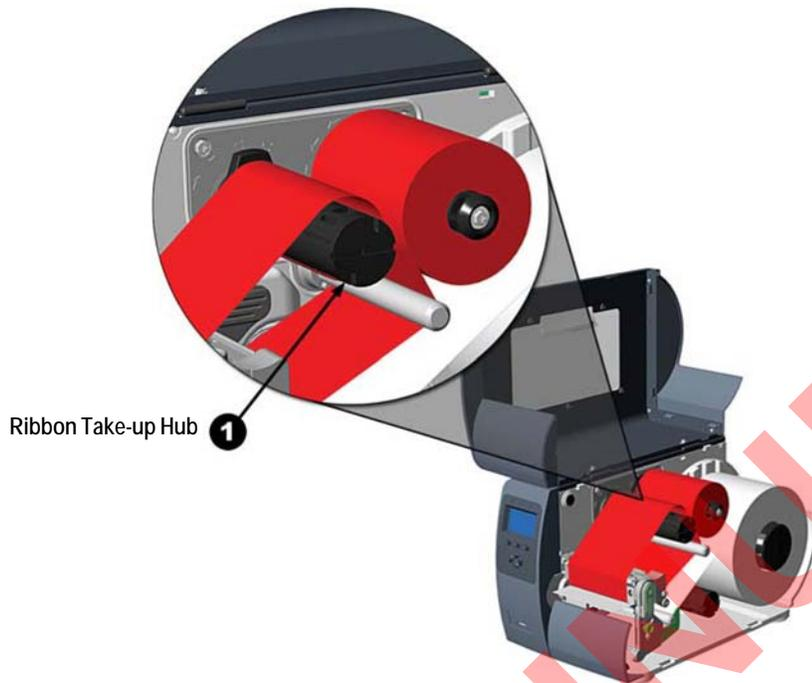

Figure 1-25. Ribbon Take-up Hub Diagram
4. Swing the mechanism open as shown in Figure 1-25.